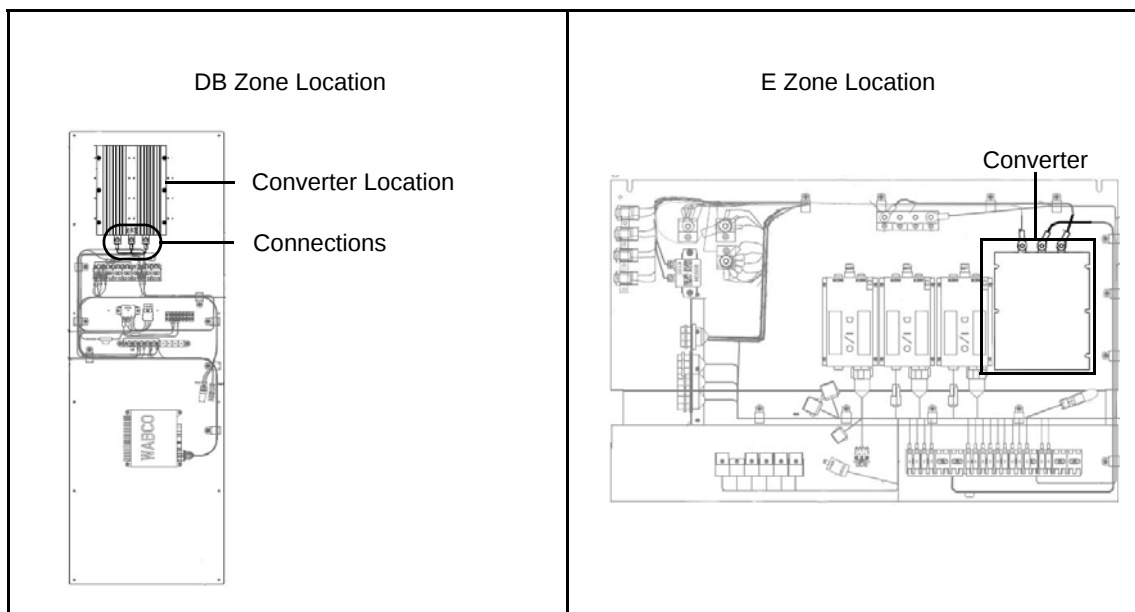

Figure 1-6 Orion VII Sure Power Converter Locations
1. Install converter onto mounting area (See **Figure 1-6**) using the following replacement hardware: